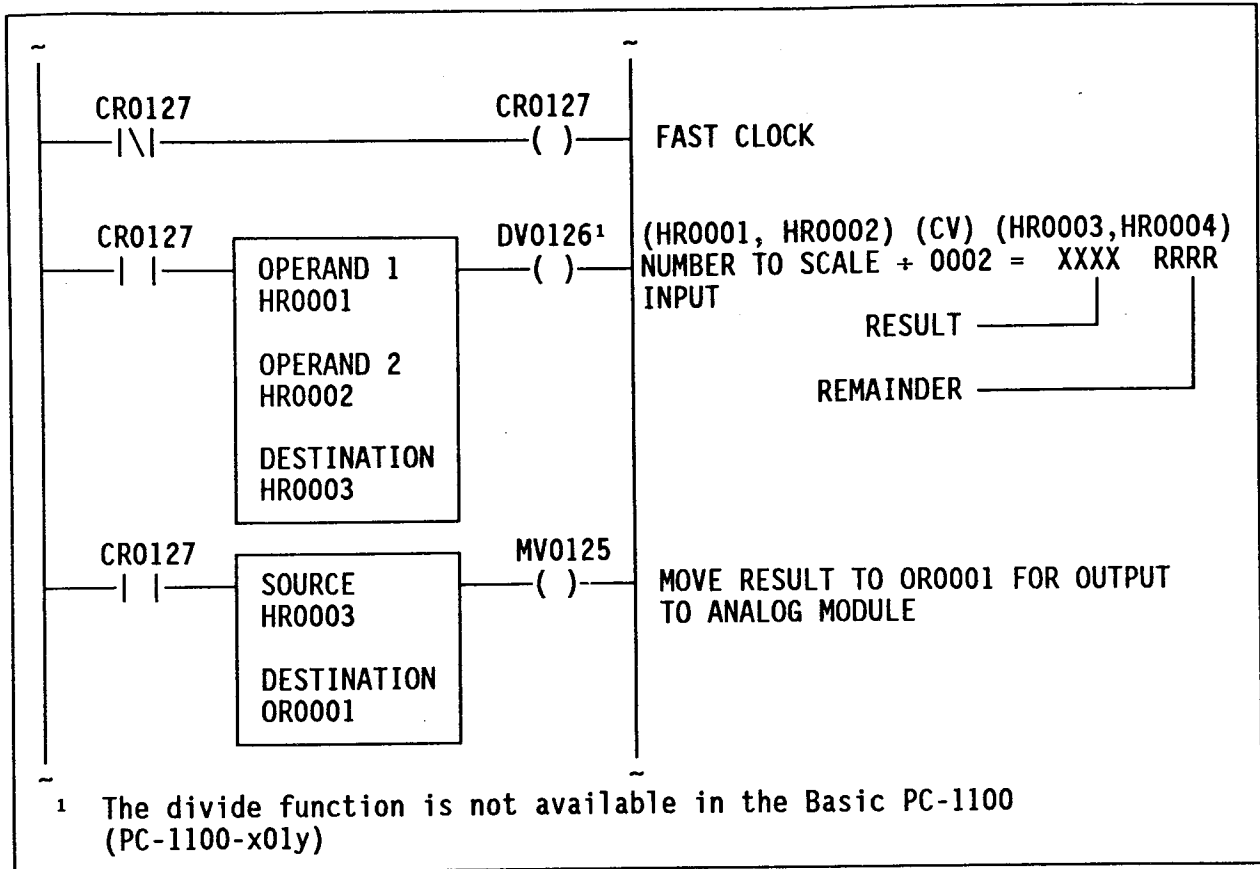

Figure 2. MV Application
The Divide (DV) function illustrates the usefulness of the MV function in conserving register space. Rather than using two output registers for the DV result and the remainder when only the result is desired, a pair of holding registers is used as the destination. The result is moved only to the output register as shown in Figure 2.
Figure 2 is an example of the N Bit Serial Shift operation. With a shift register that is two holding registers long, the following conditions occur when four (N) bits shift to the left: